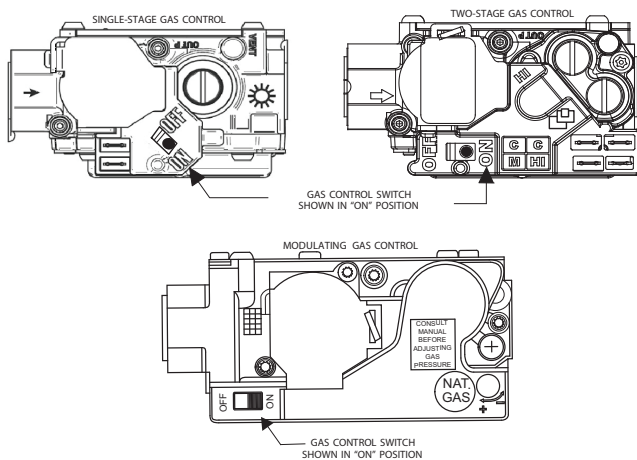

Fig. 12 - Control Switch to ON
6. After waiting five minutes, turn control switch on the gas control to the ON position. Turn the control switch to ON. See Fig. 12.